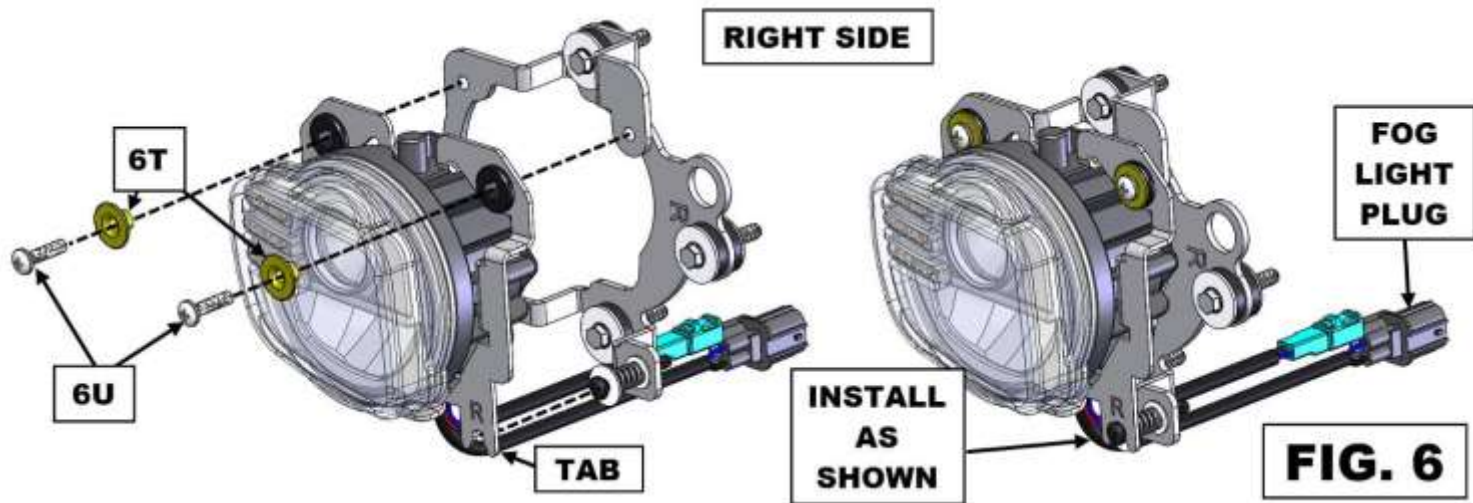

FIG. 6
- TAKE THE RIGHT LIGHT ASSEMBLY AND INSTALL IT IN THE RIGHT LIGHT MOUNT AS SHOWN IN **FIG. 6**. **NOTE: THE TAB SHOULD GO BETWEEN THE WASHER AND THE SCREW HEAD AS SHOWN IN THE RIGHT VIEW OF FIG. 6.**
- USING TWO M5 X 20MM LONG SCREW (6U) AND TWO GOLD FLANGE COLLARS (6T) ASSEMBLE TOGETHER AS SHOWN IN **FIG. 6**.